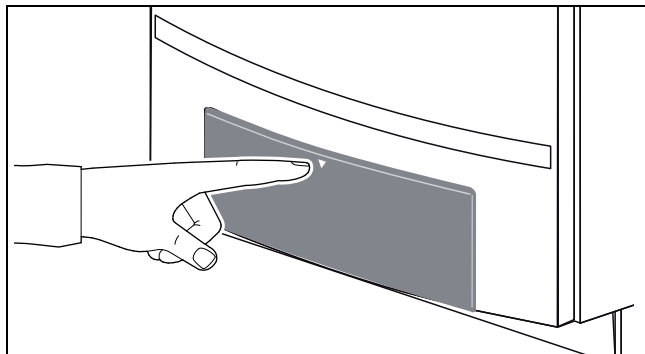
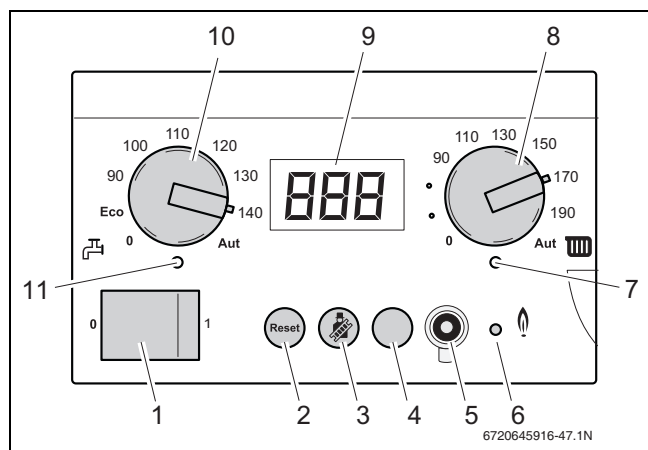

Fig. 49 Opening the control panel
Fig. 50 BC10 basic controller
- ▶ Push on the control panel (→ fig. 49) to get access to the BC10 basic controller (→ fig. 50).
"Main power switch" (→ fig. 50, [1])
"Reset" button (→ fig. 50, [2])
"Chimney sweep" button (→ fig. 50, [3])
"Service" button (→ fig. 50, [4])
Service Tool connection (→ fig. 50, [5])
LED "Burner operation" (→ fig. 50, [6])
LED "Central heat demand" (→ fig. 50, [7])
Space heating water temperature knob (→ fig. 50, [8])
Display (→ fig. 50, [9])
DHW temperature knob (→ fig. 50, [10])
LED "DHW demand" (→ fig. 50, [11])
You can navigate through the menu structure of the boiler on the BC10 using the “Reset” button, the “Chimney sweep” button, the “Service button” (→ fig. 50, [2, 3 and 4]) and the display (→ fig. 50, [9]).